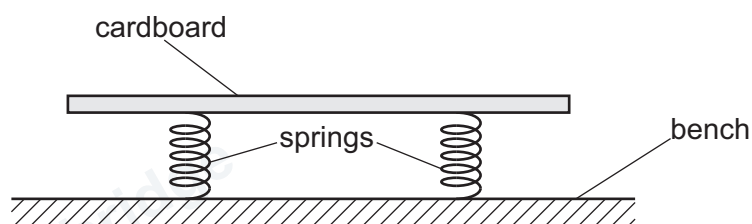

Figure 1.1
- 1 A thin sheet of cardboard is supported by four springs. Figure 1.1 shows a side view of the arrangement.